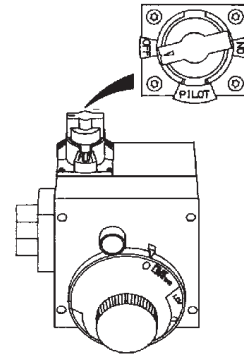
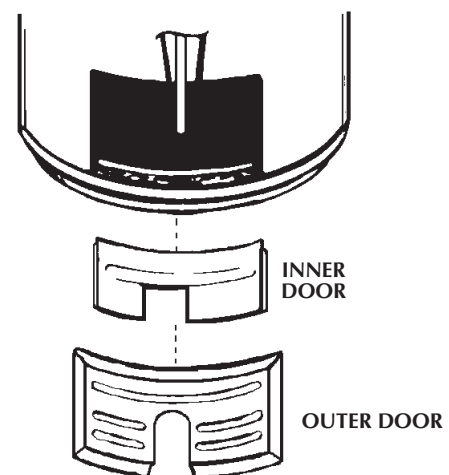

Figure 6
Figure 9
4. Turn gas control knob clockwise  to "OFF" position. Knob cannot be turned from "PILOT" to "OFF" unless knob is depressed slightly. **DO NOT FORCE.** (Figure 6)
5. Wait five (5) minutes to clear out any gas. If you then smell gas, **STOP!** Follow "B" in the safety information above on this label. If you don't smell gas, go to the next step.
6. Remove (or open) inner door located below the gas control unit. (Figure 9)
- If the pilot will not stay lit after several tries, depress and turn the gas control knob clockwise  to "OFF" and call your service technician or gas supplier. (Figure 6)
10. Replace (or close) inner door. Replace outer door if door does not cover gas control on/off knob or temperature adjustment knob. (Figure 9)
2. Turn gas control knob clockwise  to "OFF" position. Knob cannot be turned from "PILOT" to "OFF" unless knob is depressed slightly. **DO NOT FORCE.** (Figure 6)